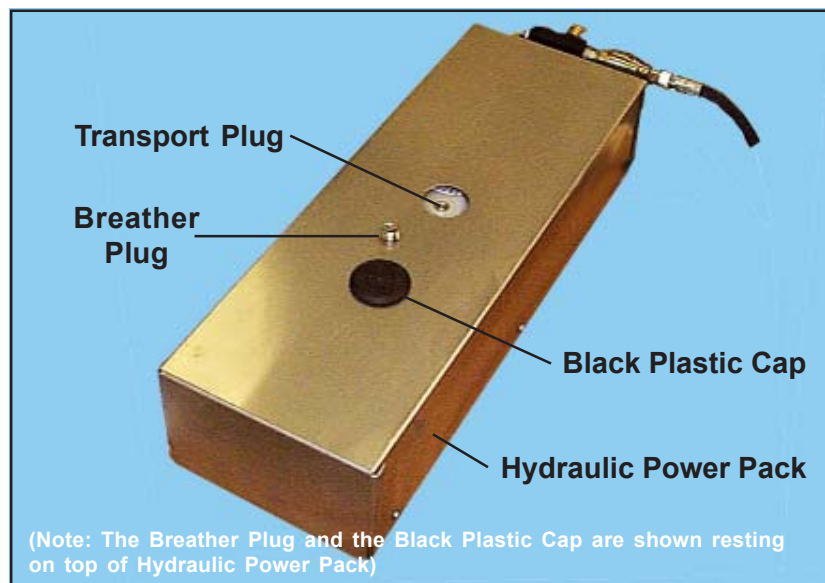

Figure 5. Transport Plug in Oil Reservoir
2. With a 7/16-in. hex key (Allen wrench), unscrew the transport plug (Figure 5) on top the oil reservoir.